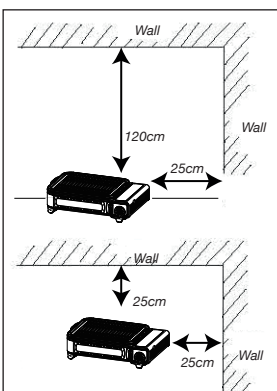

Fig. 8
4. Position properly see (Fig. 8)